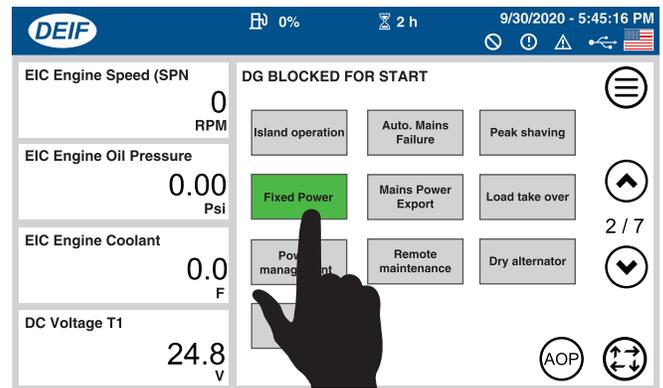

Figure 162. Screen 2 of 7 (Fixed Power Button)
10. Verify that **screen 2 of 7** is displayed (Figure 162), then press the **Fixed Power** button.